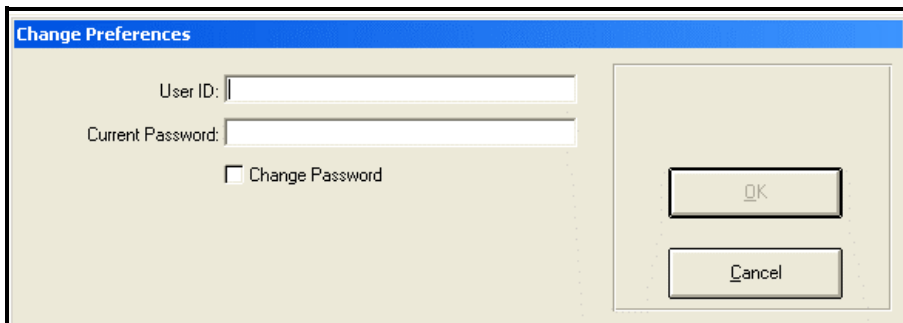

Figure 21: Change Preferences Dialog Box
1. On the Kaye RF ValProbe Main Menu, click the Preferences tab. The **Change Preferences** (Figure 21 below) dialog box appears.